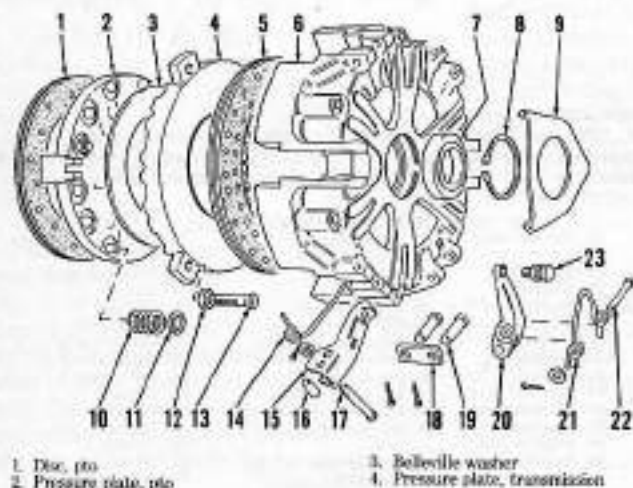

Fig. 146—Exploded view of Laycock double disc clutch showing component parts and their relative positions.
146) in flywheel, then bolt clutch assembly to flywheel. Mark clutch cover and both pressure plates so clutch can be reassembled with parts in same position to maintain balance. Remove transit staples installed during removal of clutch. Remove pto release lever pins (22—Fig. 146) and anti-rattle springs (21), then swing pto release levers (20) outward beyond clutch cover. Remove transmission release lever pins (17) and pull springs (14) out until they clear holes in release plate (9). Then, lift release plate from levers (15) and complete removal of levers with rollers (16). Loosen bolts retaining clutch to flywheel evenly until all spring pressure is relieved, then remove locknuts using an Allen wrench and remove adjusting screws (13). If necessary, complete removal of retaining bolts and separate clutch assembly while noting position of Belleville washer (3) and insulators (11). Links (18) can be removed from pto pressure plate (2), if necessary, and note holes in links are offset toward center of clutch.
With flywheel on bench, clutch friction surface up, place pto clutch disc (1—Fig. 146) in flywheel with long hub toward flywheel. Place pto pressure plate (2) on pto clutch disc with friction face down and install insulating washers (11) and pressure springs (10). Place Belleville spring on pressure plate with concave side up (outside diameter higher than inside diameter).
Assemble pto levers (20—Fig. 146) and links (18) making certain links are installed to pto pressure plate with offset of holes toward center of clutch. Place remaining insulating washers (11) in spring seats of pressure plate (4). Then, while aligning previously made alignment marks, set pressure plate (4) on pressure springs. Make certain all springs (10) are on insulating washers (11). Place transmission disc (5) on pressure plate (4) with dished hub toward pressure plate. Insert appropriate pilot shaft through both clutch discs and into pilot bearing in flywheel. Install bearing (7) in cover (6), align locating marks and install cover over pressure plates. Insert retaining bolts in their holes turning assembly as necessary to align bolts with correct holes in flywheel. Tighten bolts using a criss-cross pattern until pto release levers (20) and springs (21) can be installed in cover.